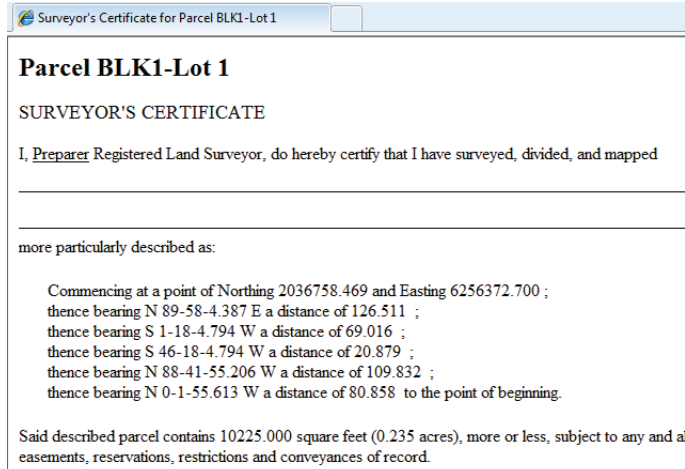

Figure 2–60
8. Review the report (as shown in Figure 2–60), and close the web browser.